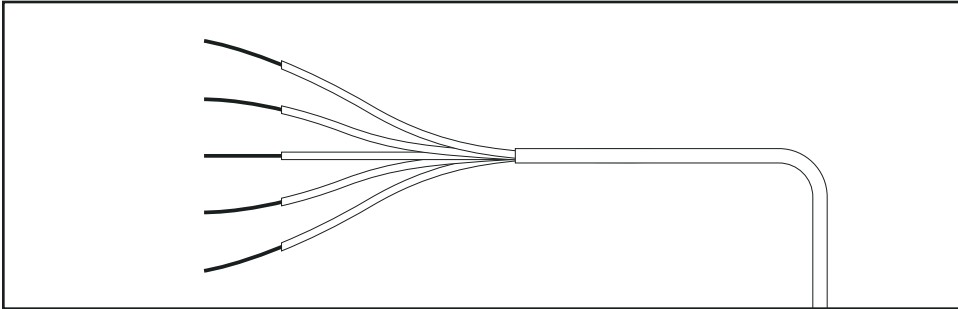

Figure 4: Sprinkler Wire with outer and inner insulation removed
Step 3. Taking the sprinkler wire, remove the outer insulation, exposing 4"-5" of the individual wires. (When removing the outer insulation avoid cutting into the wires inside.) Next remove 7/8"-1" of insulation from each individual wire. [See Figure 4]